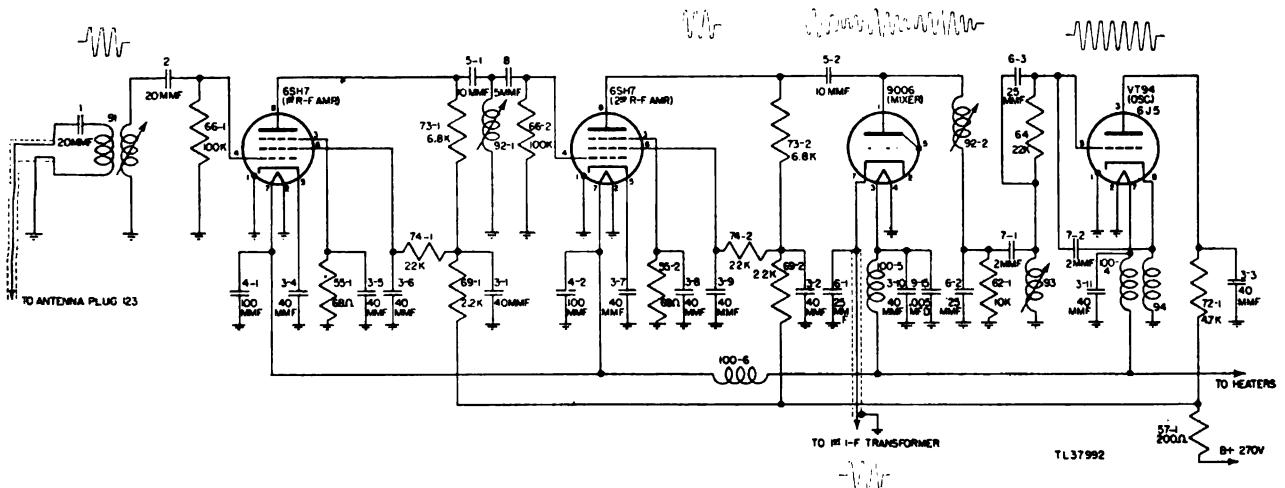

Figure 25. R-f section, partial schematic.
c. **OUTPUT CIRCUIT.** The plate load 73-1 of the first r-f amplifier is a resistor and the output of this stage is coupled through capacitor 5-1 to another tuned circuit 92-1 (fig. 25). This second tuned circuit is adjusted by means of